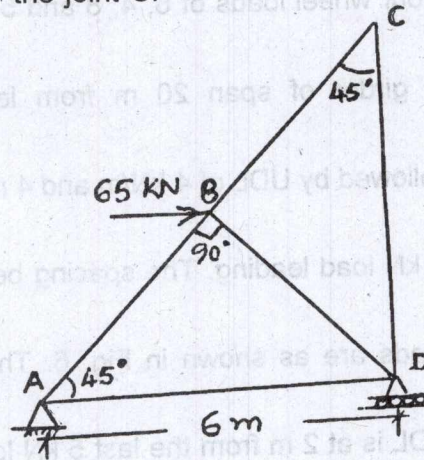

Fig. 5
- (c) Each bar of the truss shown in Fig. 5 has a cross section of  $625 \text{ mm}^2$  and  $E = 200 \text{ kN/m}^2$ . Calculate the horizontal deflection of the joint C.